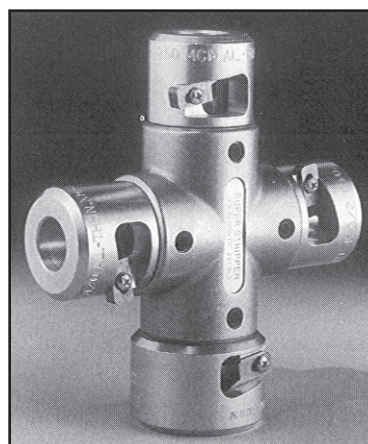

Figure 3
- b) A quicker and easier way is to use one of the several types of insulation strippers that are available to remove insulation. *Figure 3* shows a type useful for popular sizes of conductors (6 AWG through 750 kcmil).